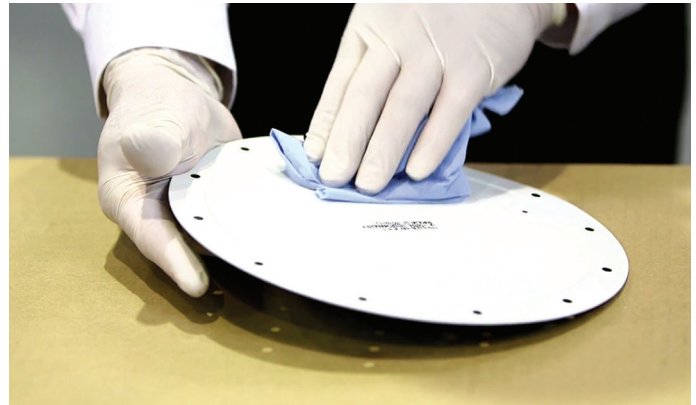

Figure 1: Cleaning the surface
4. Clean the panel with an appropriate cleaner, such as isopropyl alcohol, and a cloth. Follow your aircraft maintenance manual requirements or company procedures when selecting solvents for removal of existing sealants (Figure 1).